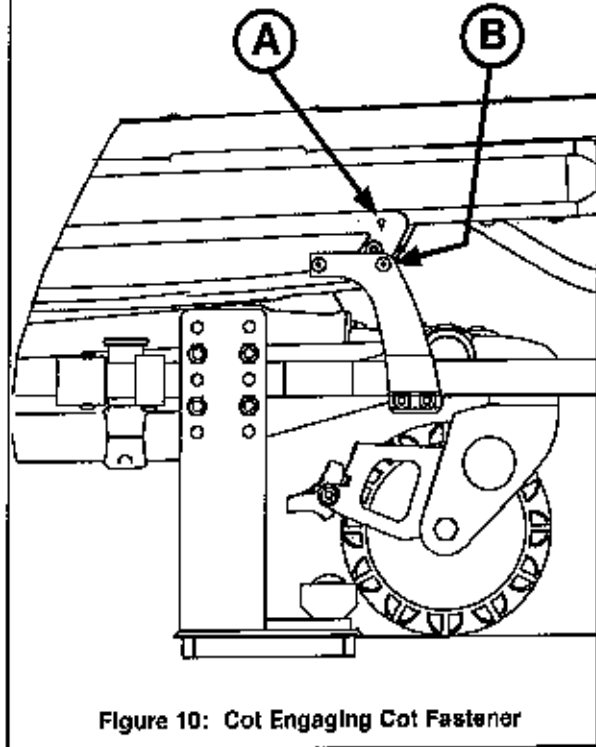

Figure 10: Cot Engaging Cot Fastener
6. Adjust the shut-off bracket along the rail clamp until the "diamond" (A) on the sensor housing is lined up with the pop rivet head (B) as shown in Figure 10.
**Note:** Align the 'diamond' (A) on the sensor housing cover with the pop rivet head (B) on the in-ambulance shut-off.